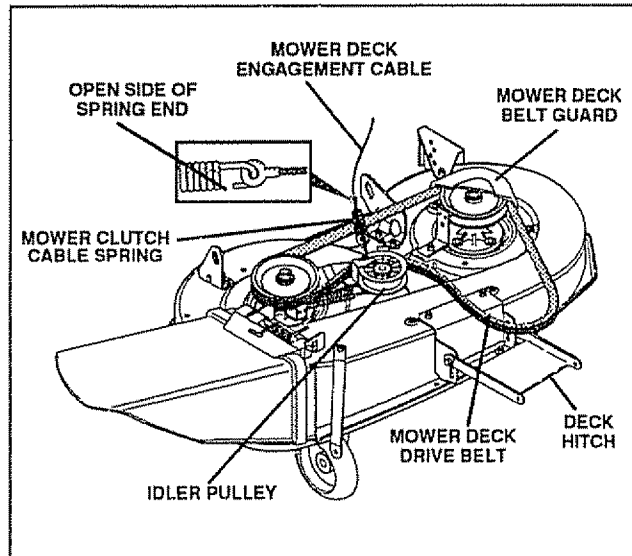

FIG. 5
- From left side of tractor, slide deck rearward. Then connect mower deck engagement cable to mower clutch cable spring (see Fig.5). Be sure open side of spring end is pointed down (see Fig. 5 inset).
- Verify that mower belt is routed as shown in Fig 5, and free of the deck hitch.